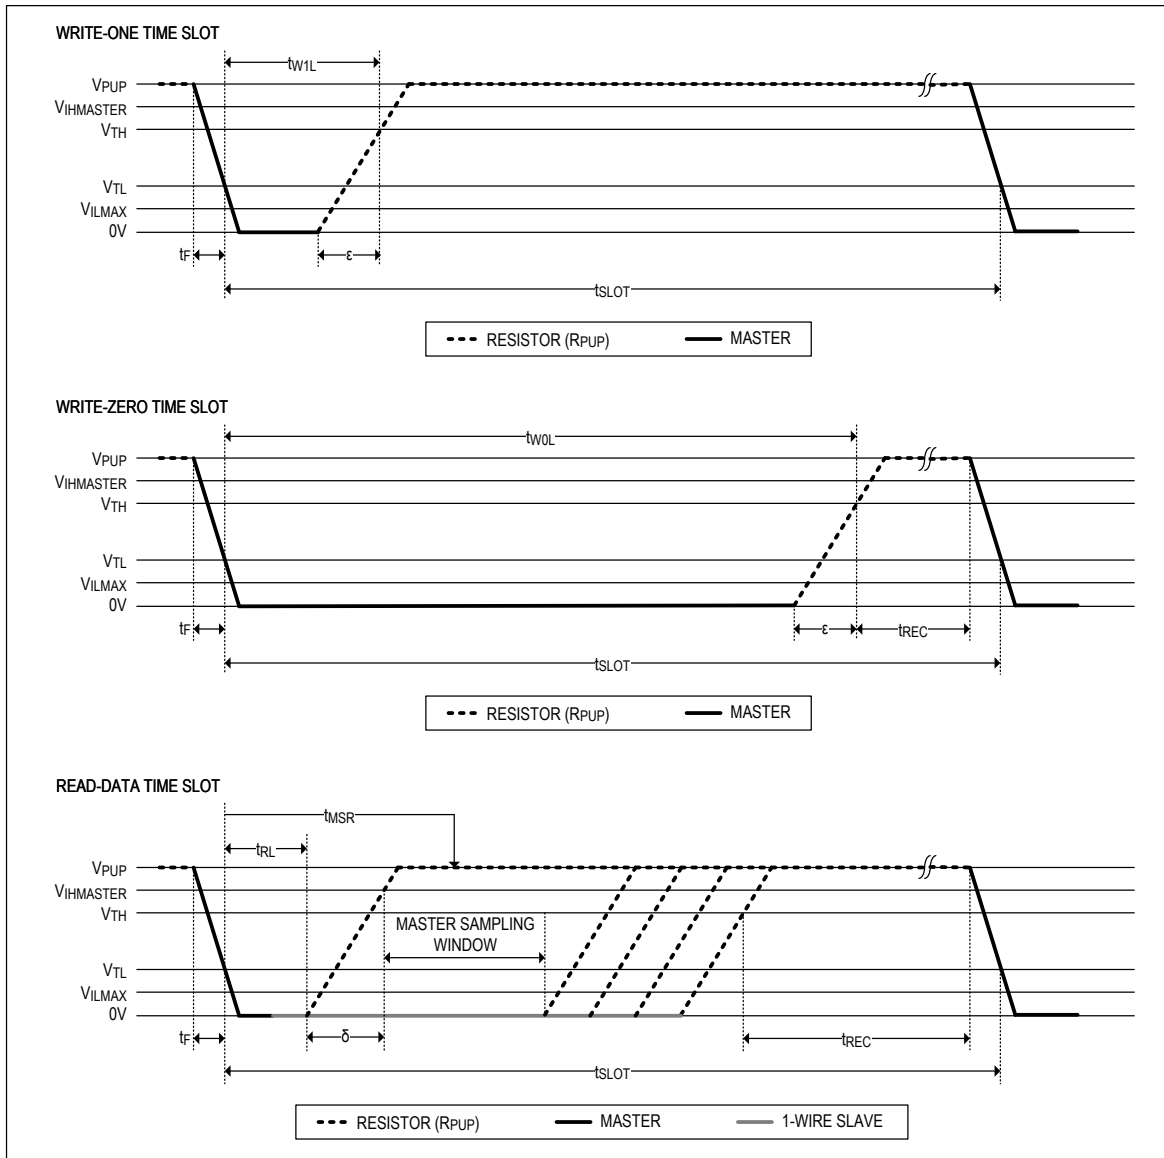

Figure 6. 1-Wire Read/Write Timing Diagrams
**Note 18:**  $\epsilon$  in Figure 6 represents the time required for the pullup circuitry to pull the voltage on IO up from  $V_{IL}$  to  $V_{TH}$ . The actual maximum duration for the master to pull the line low is  $t_{W1LMAX} + t_F - \epsilon$  and  $t_{W0LMAX} + t_F - \epsilon$ , respectively.
**Note 19:**  $\delta$  in Figure 6 represents the time required for the pullup circuitry to pull the voltage on IO up from  $V_{IL}$  to the input-high threshold of the bus master. The actual maximum duration for the master to pull the line low is  $t_{RLMAX} + t_F$ .
Data communication on the 1-Wire bus takes place in time slots that carry a single bit each. Write time slots transport data from 1-Wire master to a connected slave. Read time slots transfer data from slave to the 1-Wire master. Figure 6 illustrates the definitions of the write and read time slots.